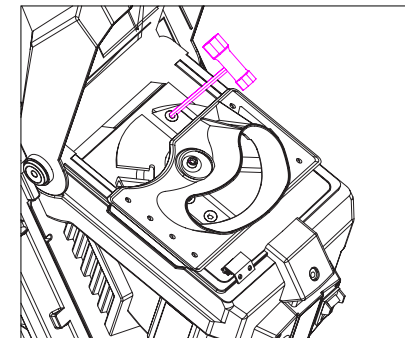

Fig. 11
5. Turn the blade plate 180°, use the hexagonal wrench to loosen and remove the other hexagon socket head screw (Fig. 11).